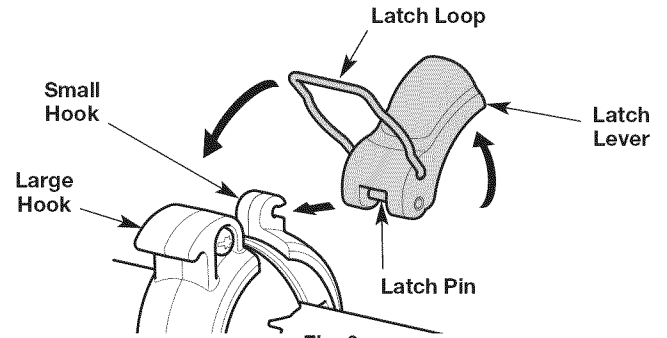

Fig. 6
6. Push the latch pin completely into the small hook on the handle (Fig. 6). Lift the latch lever up and push it toward the large hook (Fig. 6). Push the latch loop over the large hook (Fig. 6).